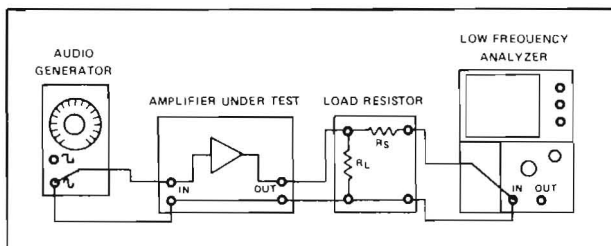

Figure 9 Equipment Setup for Measuring Power
2. Connect the equipment as shown in Figure 9. Set all amplifier controls to their flat positions and set the volume control to maximum.
1. This test is usually conducted when the power output of an amplifier is measured. The equipment setup is shown in Figure 9. Set the amplifier controls for a flat response and maximum volume.